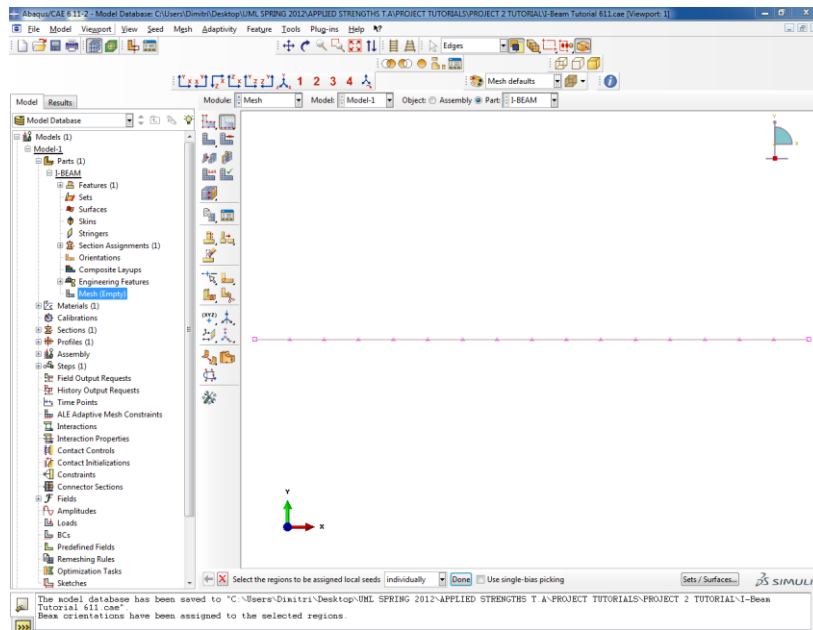

**Figure 16.** Beam Section Orientation
- Using the computer keyboard, enter (0.0,1.0,0.0) in the **Enter an approximate n1 direction (tangent vectors shown)** option. Hit **Enter**. The model should look identical to Figure 16.